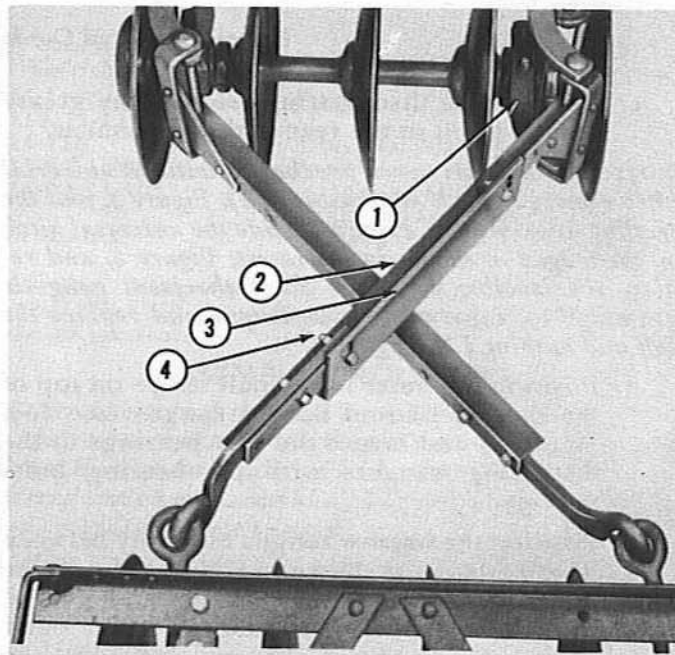

Figure 5
- a. Position the rear weight boxes on the disc gangs so that the holes in the hangers are aligned with the bearing bolts. Position the lower rear pull straps on top of the hanger flanges as shown at (1), Figure 5.
- a. Attach the cross draw bars to the pull straps on the rear gangs with the long pins provided. See Figure 5.
**Cross Draw Bars:** Adjust the leveler plates (3), Figure 5, on the top cross drawbar (2) to level the rear disc gangs. To raise the centers, position the bolt (4) in